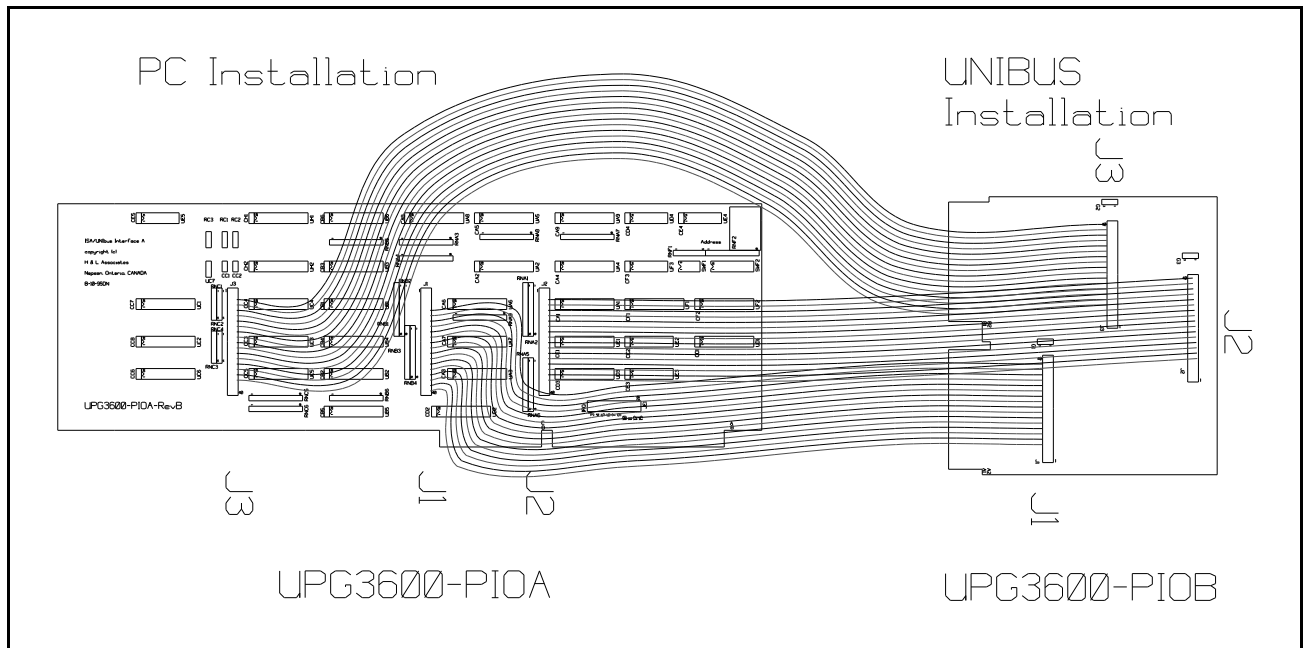

Figure B.2 : UPG3600-PIOA and UPG3600-PIOB Interface Boards
- | Lead the three supplied ribbon cables through the back of the computer and plug them into the three connectors J2, J1 and J3 (in that order) on the UPG3600-PIOA card as shown in Figure B.2. Then plug the other end of each ribbon cable into the corresponding connector on the smaller UPG3600-PIOB card. Note that each ribbon cable header on the UPG3600-PIOA and -PIOB boards has a small V-shaped marking to indicate pin 1 on the header. The red line on the ribbon cable should line up with this marking on the header. Keyed connectors will force this alignment.